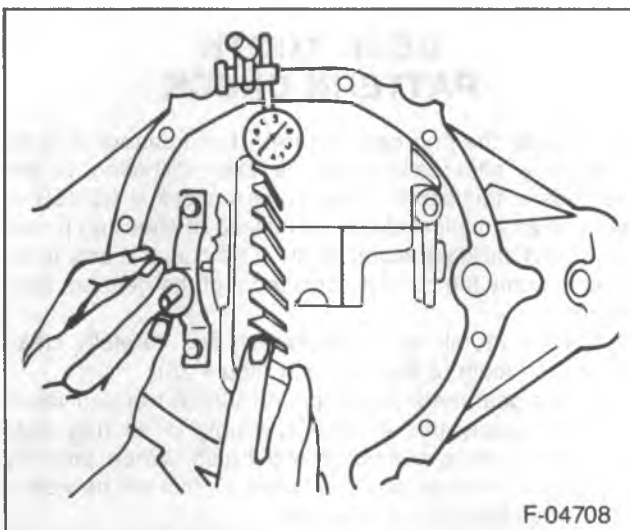

Figure 20—Installing Side Bearing Gaging Tool
- Insert J 22779 between the axle housing and the left bearing cup (figure 20).